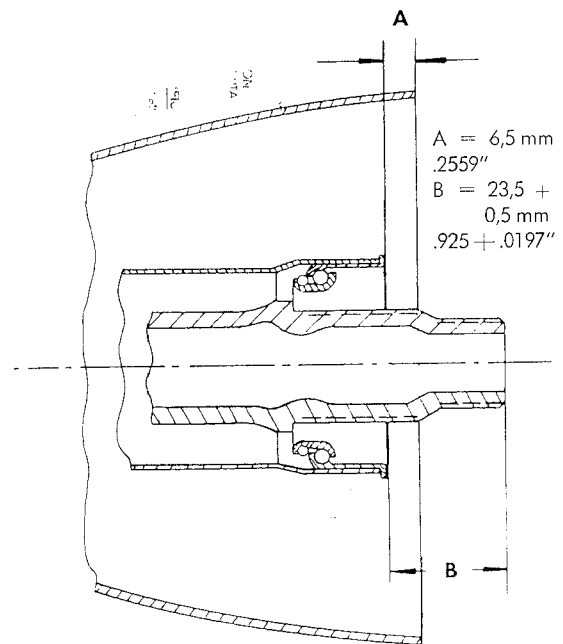

Fig. 75
3. Insert tube until the steering column projects  $.925'' + .0197''$  ( $23,5 + 0,5$  mm) beyond the upper edge of the steering shaft bearing installed in the tube (see fig. 75)